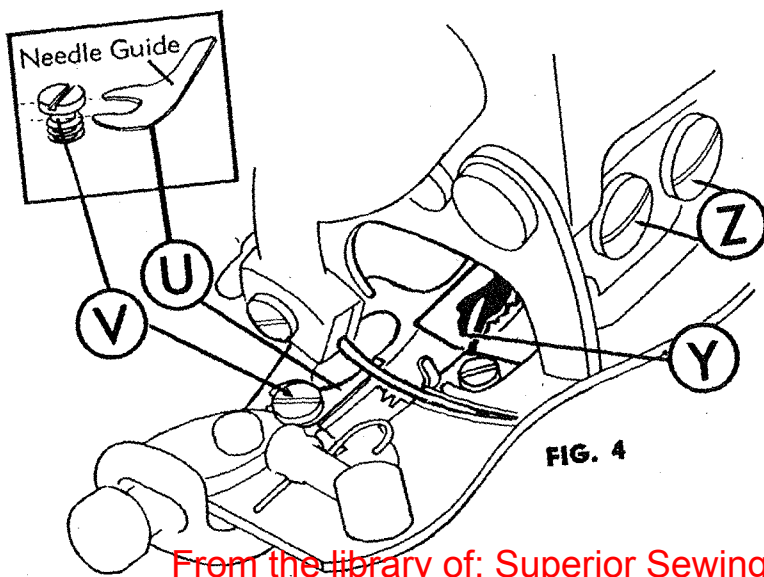

FIG. 4
10. (FIG. 4) When Needle Guide (U) becomes grooved or broken, remove and put in a new one. NOTE: When replacing Needle Guide, slide "U" of Needle Guide into undercut neck of screw (V). Hold together and screw on Presser Foot. Just before tightening firmly, push Needle Guide securely towards screw, hold in position and tighten Needle Guide Screw (V).
(FIG. 4) BE SURE LOOPER CLEARS FEEDER AT POINT (Y).